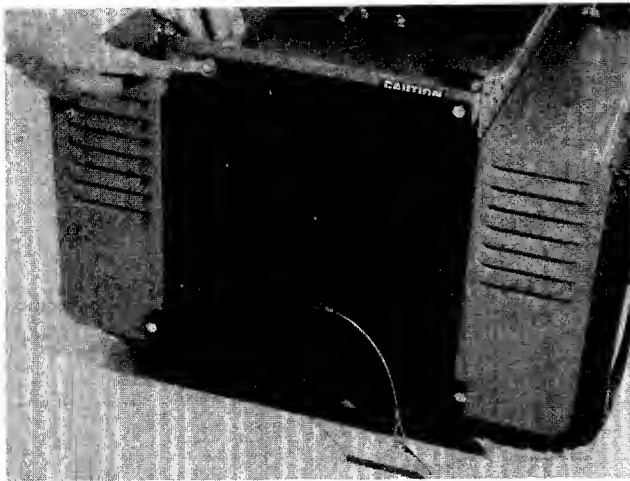

FIGURE 31.
3. Place the rear hitch plate against the discharge opening of the rider. Attach with four 5/16" screws (H), lock washers (I) and nuts (J). See figure 31.